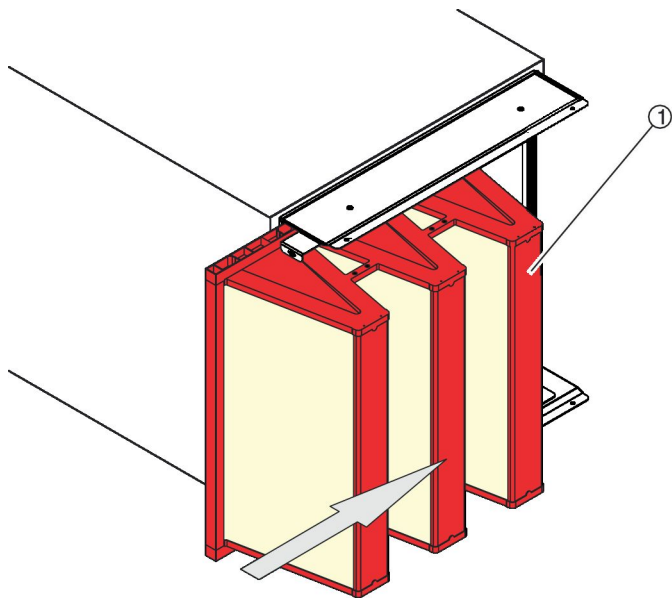

Fig. 60: Replacing the filter element
6. ▶ Slide the new filter element (Fig. 60 /1) in from the side.